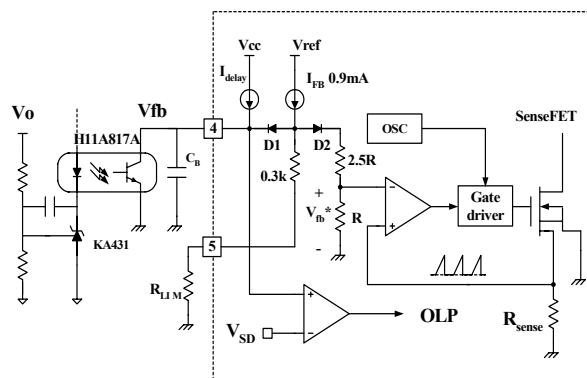

Figure 6. Pulse width modulation (PWM) circuit
2. Feedback Control : FSCM0765R employs current mode control, as shown in Figure 6. An opto-coupler (such as the H11A817A) and shunt regulator (such as the KA431) are typically used to implement the feedback network. Comparing the feedback voltage with the voltage across the Rsense resistor makes it possible to control the switching duty cycle. When the reference pin voltage of the KA431 exceeds the internal reference voltage of 2.5V, the H11A817A LED current increases, thus pulling down the feedback voltage and reducing the duty cycle. This event typically happens when the input voltage is increased or the output load is decreased.
2.1 Pulse-by-pulse current limit: Because current mode control is employed, the peak current through the Sense FET is determined by the inverting input of PWM comparator (V_{fb}^*) as shown in Figure 6. When the current through the opto transistor is zero and the current limit pin (#5) is left floating, the feedback current source (I_{fb}) of 0.9mA flows only through the internal resistor ($R+2.5R=2.8k$). In this case, the cathode voltage of diode D2 and the peak drain current have maximum values of 2.5V and 3A, respectively. The pulse-by-pulse current limit can be adjusted using a resistor to GND on current limit pin (#5). The current limit level using an external resistor (R_{LIM}) is given by